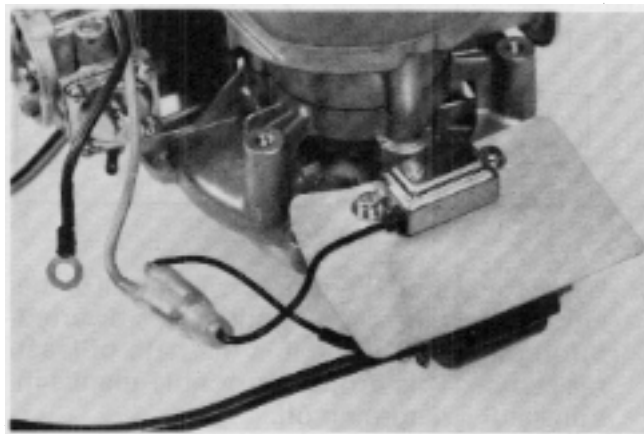

Figure 58
6. Remove the trigger module and gasket. See Fig. 58.
1. Install the trigger module using two machine screws. Be sure to install the rubber insulating gasket beneath it. See Fig. 58.